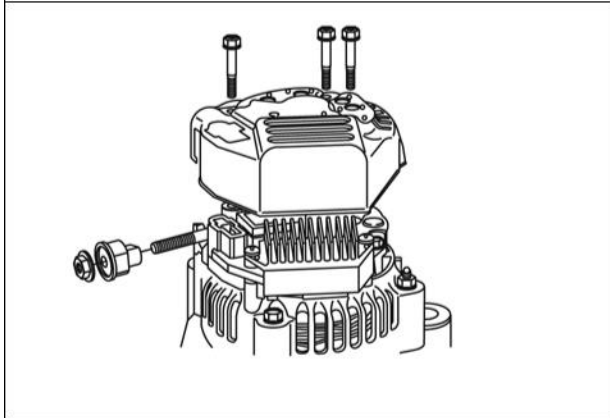

Figure 41
- Hold nut (A, Figure 41) with SST#.